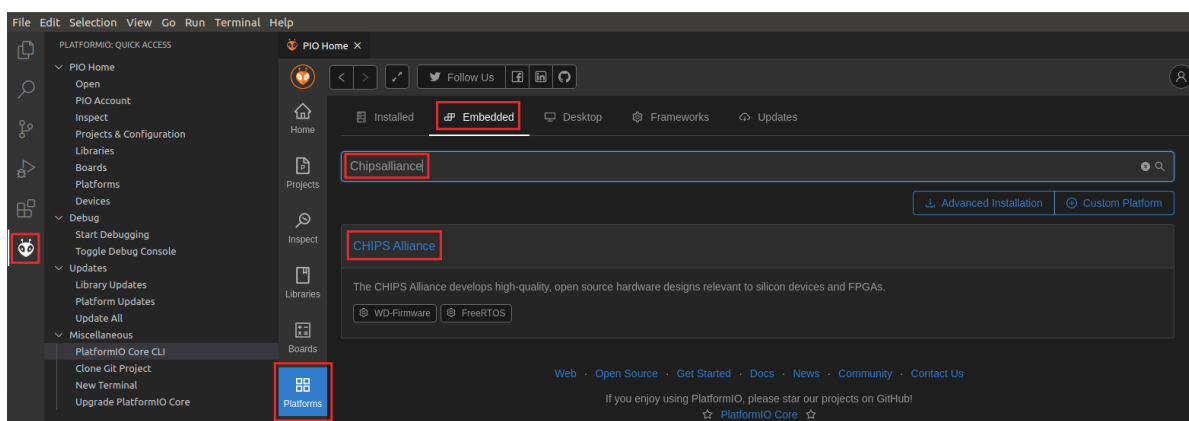

Figure 41. Selecting the CHIPS Alliance Platform
- View the Quick Access menu by clicking on the  button, located in the left side bar (see Figure 41). Then, in the PIO Home, click on the  button and then on the **Embedded** tab (Figure 41). Look for **Chipsalliance** (the platform that we use in RVfpaga) and open it by clicking on the **CHIPS Alliance** button (Figure 41).